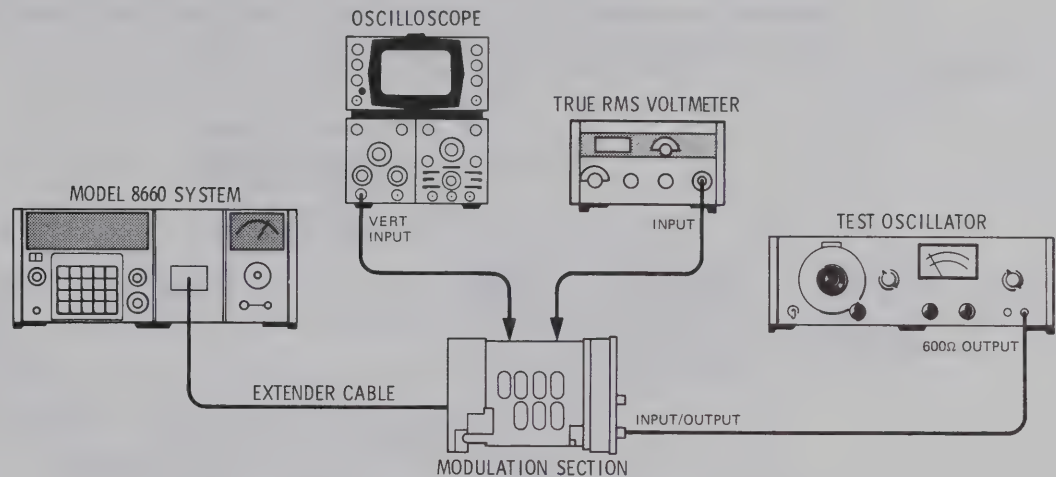

Figure 5-2. Amplitude Leveling Adjustment Test Setup
1. Remove the A4 assembly and reinstall it, using an extender board and connect the equipment as shown in Figure 5-2.